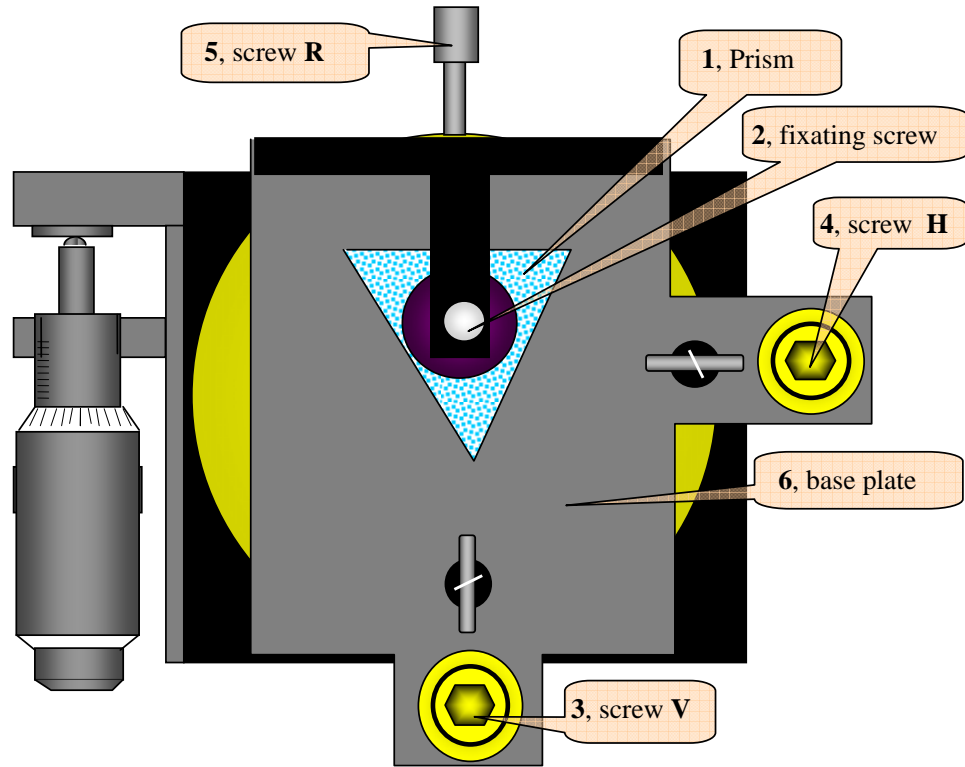

Fig.5. Schematic picture of prisms fixation and service
- *Loosen but don't remove the rotation fixation screw R (Figure 5).*
- *The heights of the beams should be also 70 mm above the laser head table top. If it is necessary use the adjusting screws to align the prism (see Figure 5).*